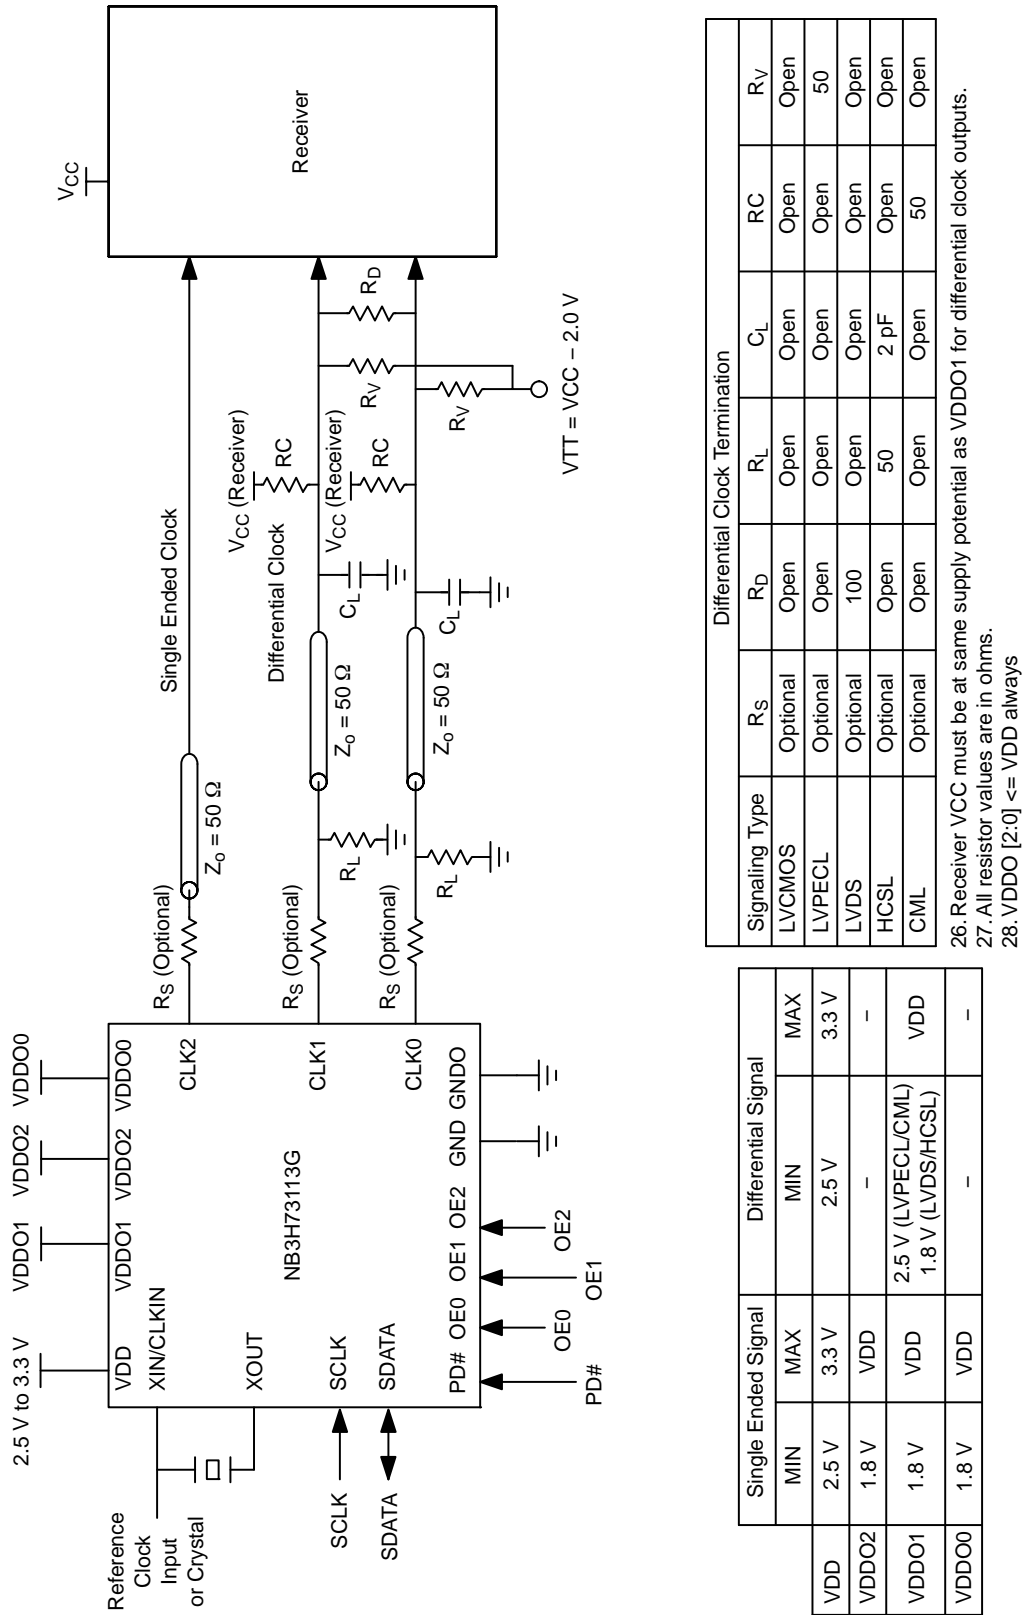

Figure 6. Typical Termination for Single Ended and Differential Signaling Device Load
- Measurement taken with single ended clock outputs terminated with test load capacitance of 5 pF and 15 pF and differential clock terminated with test load of 2 pF. See Figures 6, 7 and 12. Specifications for LVTTTL are valid for V_{DD} and V_{DDO} 3.3 V only.
- 20. Measurement taken from single ended clock terminated with test load capacitance of 5 pF and 15 pF and differential clock terminated with test load of 2 pF. See Figures 6, 7 and 12.